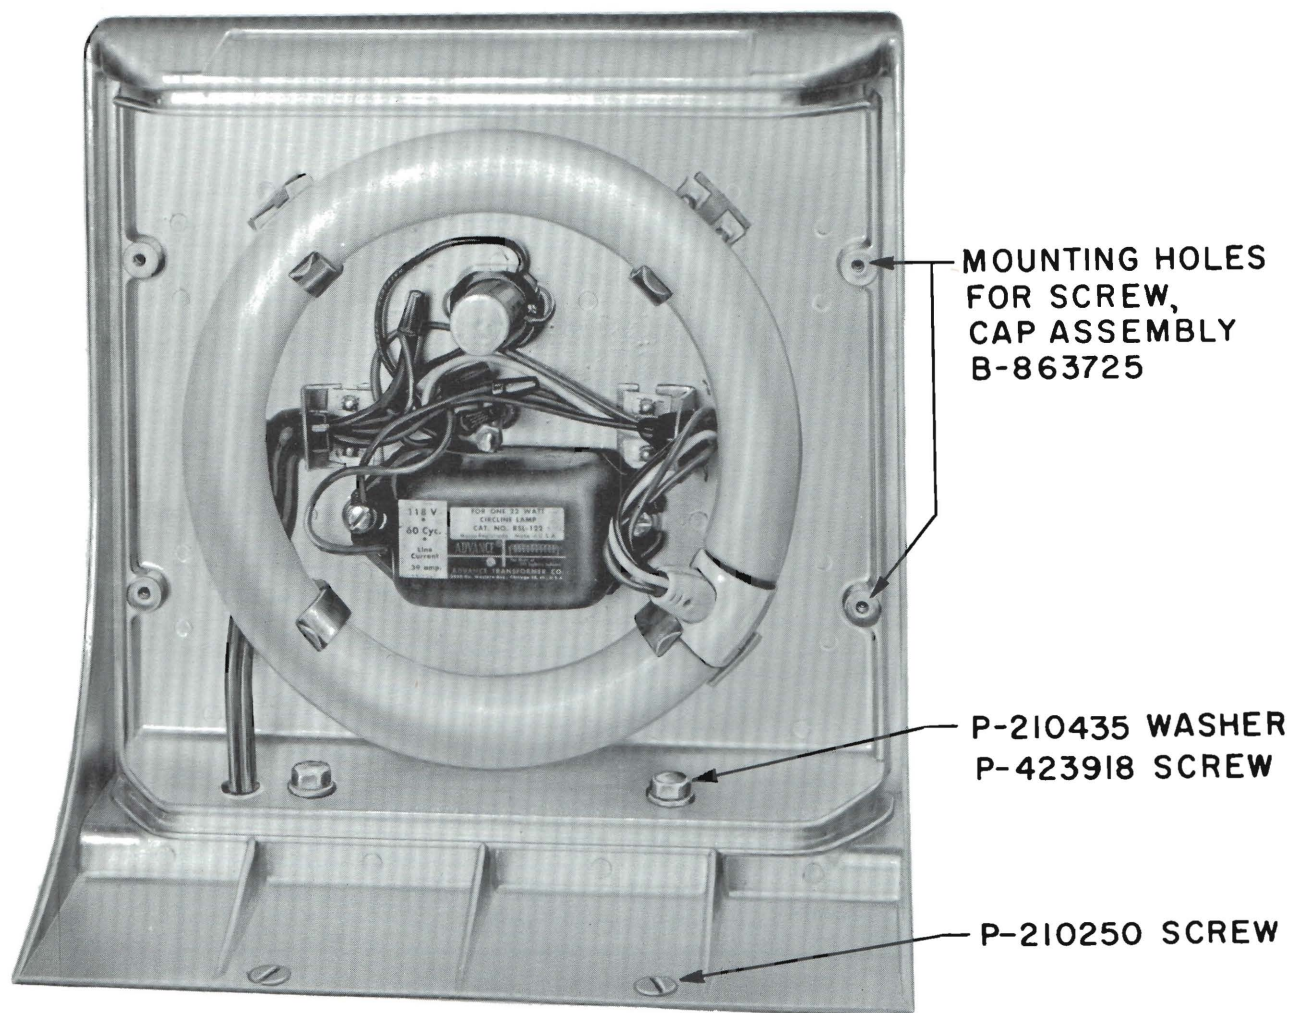

Fig. 13 — Light Assembly
3.13 The light assembly (Fig. 13) is equipped with an FC8T9 lamp, 22-watt, and a TC2 starter.